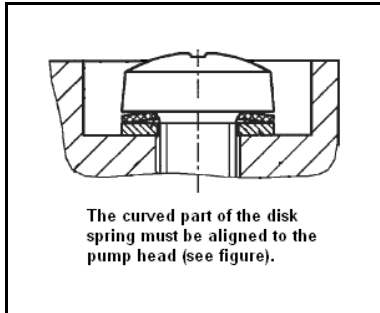

Fig. 6: Orientation disk spring
**i** For placement of disk spring (15) and washer (16) and for orientation of disk spring see fig. 6.